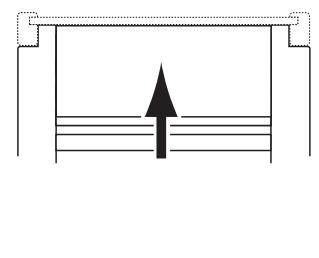

**FIG. 3.3**
4. Secure (C) shelf to tower sides with cam nuts facing the floor. (Fig. 3.3)